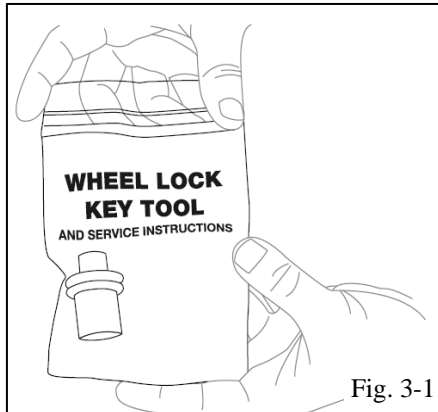

Fig. 3-1
- (a) Place wheel lock key into the bottom left hand side of the plastic bag labeled "wheel lock key tool". (See Fig 3-1)